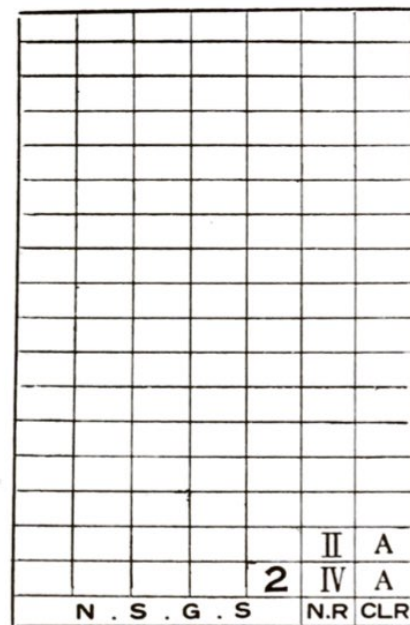

Fig. 40
- \* 1st row With carriage on right. Push back into Position (B) the 2nd needle from right hand end opposite No. 2 on the N.S.G.S. Knit 1 row. (Fig. 40)
- 2nd row With carriage on left. Push back into Position (B) at the left hand end the 2nd needle at that end -- the needle opposite No. 2 on the N.S.G.S. and knit 1 row.
- 3rd row With carriage on right. Push back into Position (B) 2nd needle from right and knit 1 row.
- 4th row With carriage on left, push back into Position (B) a needle opposite No. 2 nearest to the carriage. Knit 1 row.
- 5th row With carriage on right. Knit a row across all working needles. (Fig. 40)